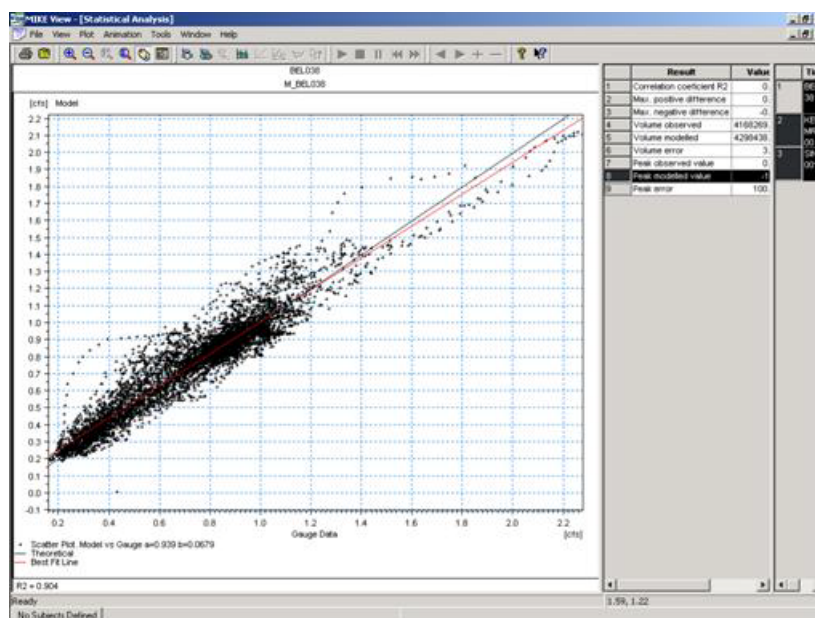

Figure 11.2 The Scatter Plot
The red line in the scatter plot, see Figure 11.2, is the line of best fit, and the coefficient of correlation (r^2) is calculated. The r^2 value is a measure of the degree of intensity of association between the data and the model. A high value (1) indicates that there is a very intense association, while a low value (0) indicates that there is a very low association.